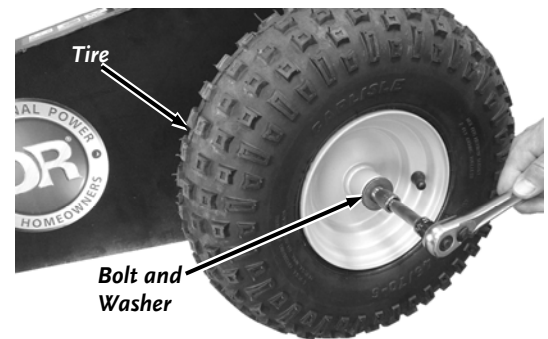

Figure 46
1. With the Stump Grinder on the ground, remove the Bolt, Lock Washer and Large Flat Washer from the Axle with a 1/2" Wrench (**Figure 46**).
1. As you rotate the Wheel forward (with Wheel Lever unlocked), loosen the upper Nut until the Wheel turns more freely but you still feel a slight resistance at the Wheel (**Figure 46**).